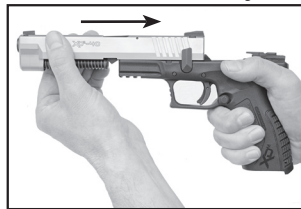

Figure 26-4
3. Install the slide assembly onto the frame (See Figure 26-4.)